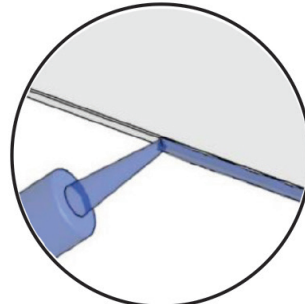

FIG 16.
- Remove shelf and put a thin bead of adhesive down both edges of shelf (FIG 16).